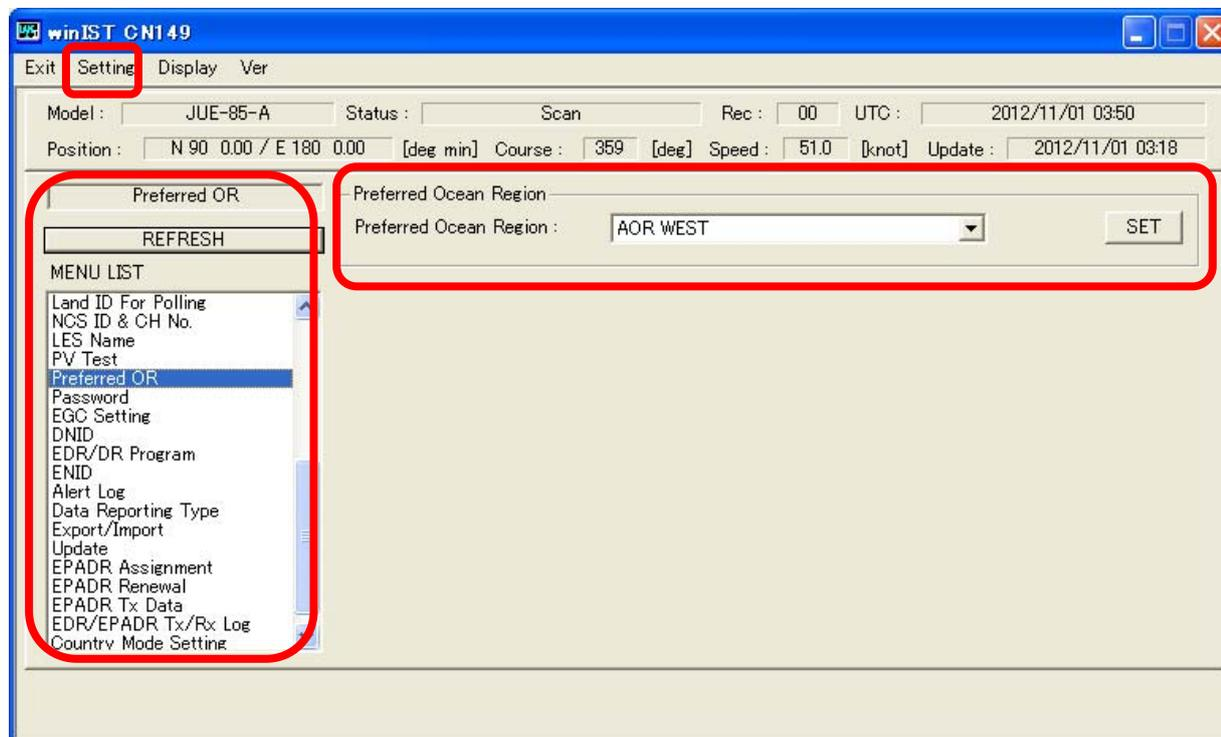

Fig. 4-23-1 [Preferred OR] screen
2. Operation except [Exit], [Display], and/or [Ver] is not possible while winIST is communicating with INMARSAT terminal (the function in the frame of **Fig. 4-23-1 [Preferred OR] screen** cannot be operated.)